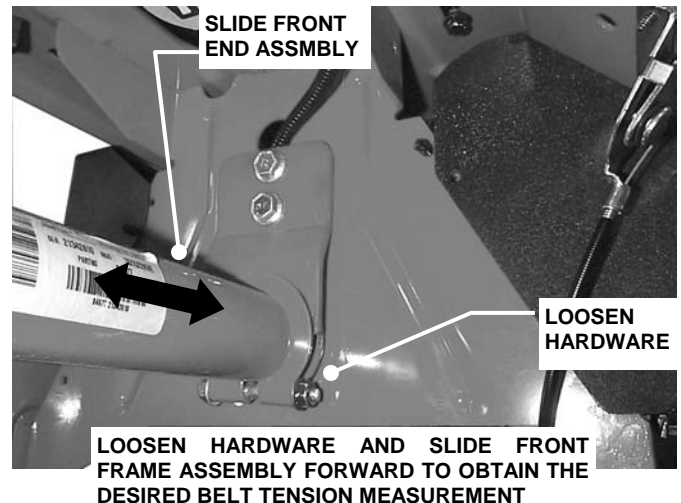

FIGURE 4.6
6. Loosen hardware that secures the clamp that anchors the front frame assembly to the rear main case. See Figure 4.6.